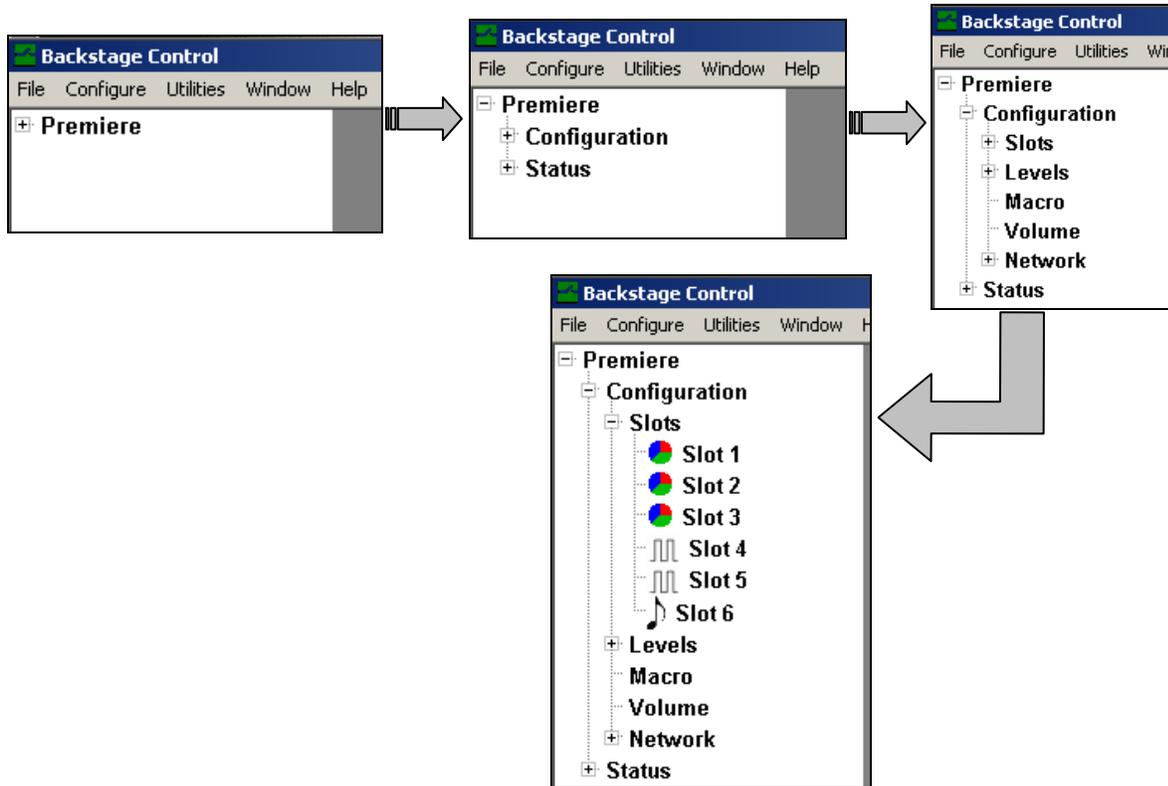

FIGURE 73: Expanding The GUI Tree Directories
1. In the tree window, access the Slots directory by expanding the Premiere, Configuration, and Slots root directories by clicking on the x-box (☒) adjacent to each directory (see Figure 73).